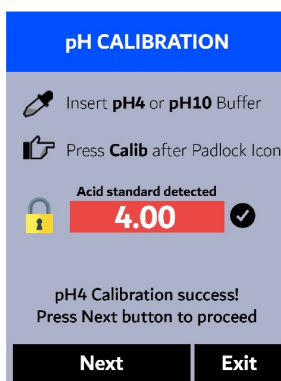
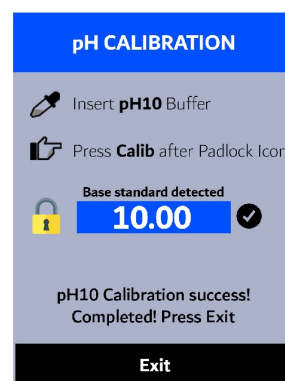

Figure 27.
Figure 28.
15. If the calibration succeeds, a checkmark (✔) and a "pH4 Calibration success!" or a "pH10 Calibration success!" message will appear (Figure 27). Otherwise, a warning message is displayed.
- (b) Press **Exit** (OK) to end the calibration process at a two-point calibration.
21. If the calibration succeeds, a checkmark (✔), a "pH4 Calibration success!" or a "pH10 Calibration success!" message, and a "Completed!" message will appear (Figure 28). Otherwise, a warning message is displayed.